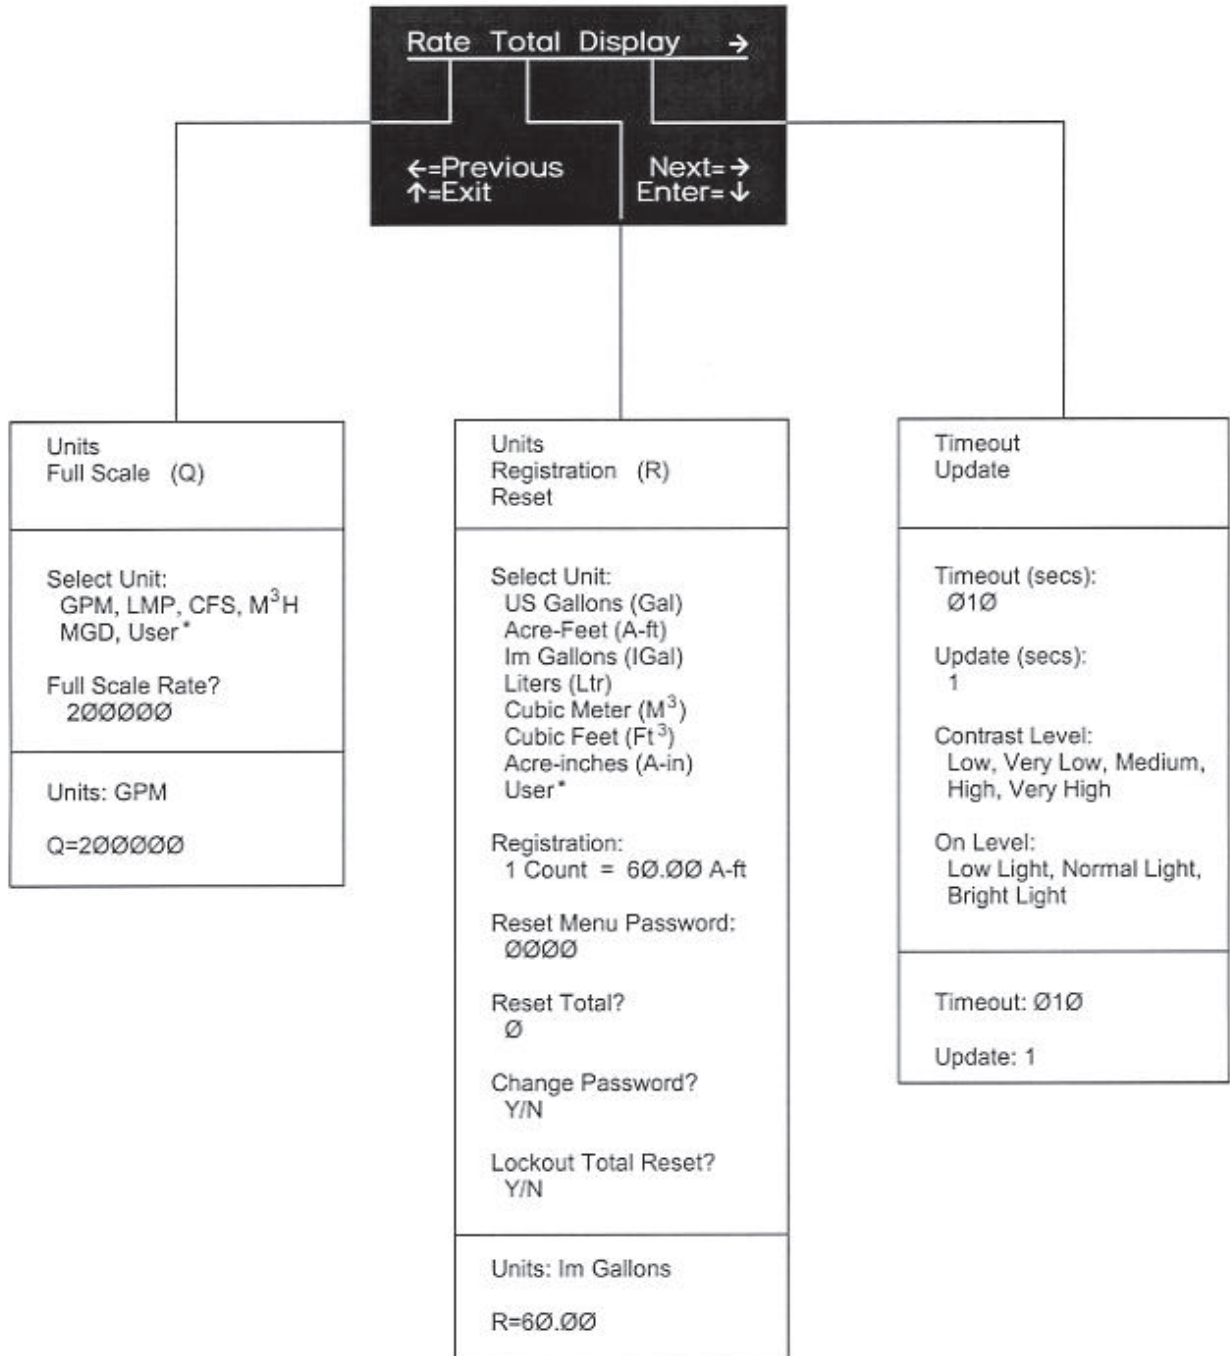
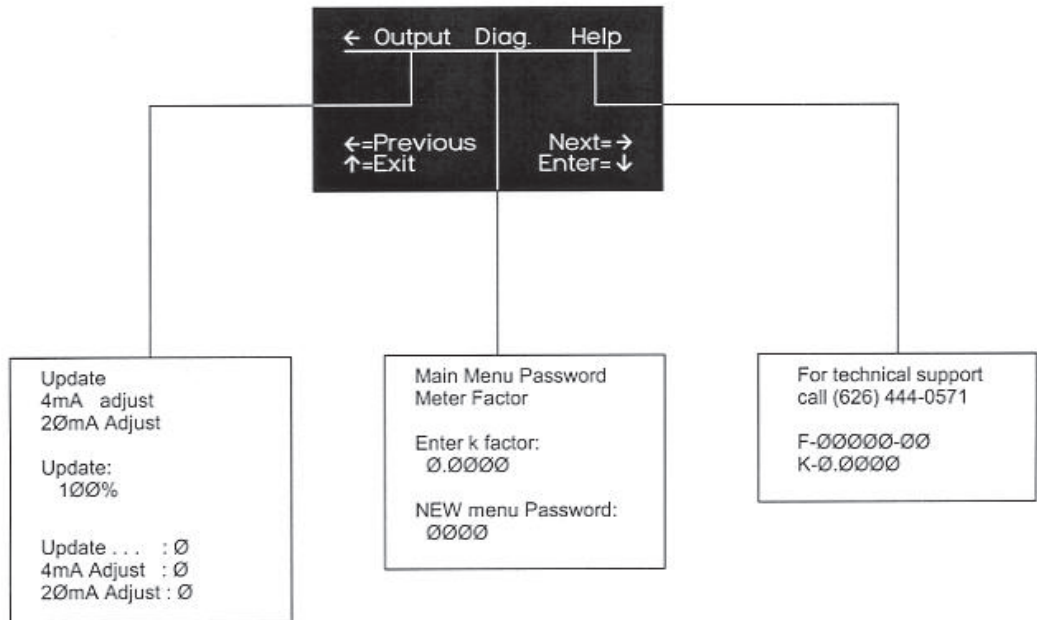

Figure 8.4
Figure 8.5
- b. There are two screens for the main menu. The first one (figure 8.4) allows access to Rate, Total and display parameters. The second one (figure 8.5) has Output, Diagnostics (Diag.) and Help. Press the right arrow when Display is highlighted to access the second screen. Move left one more time when Output is highlighted on the second screen to get back to the first.